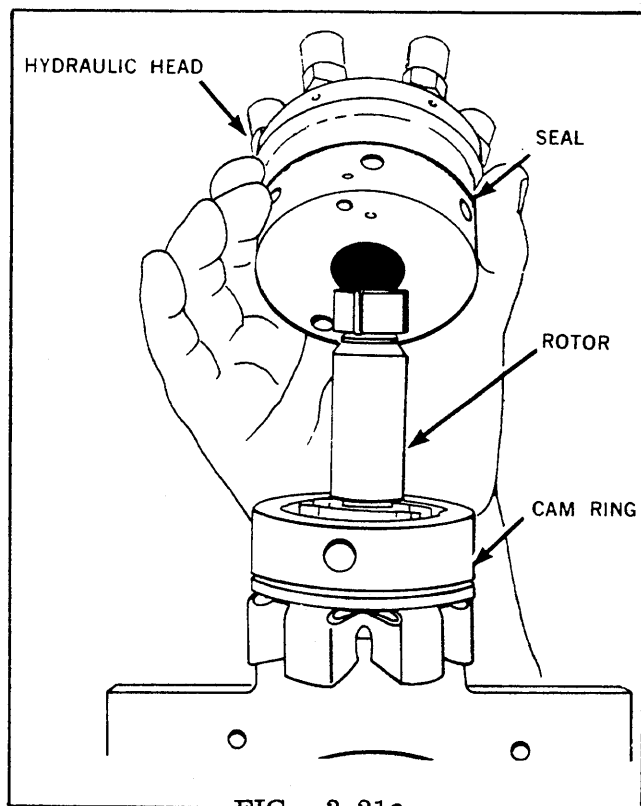
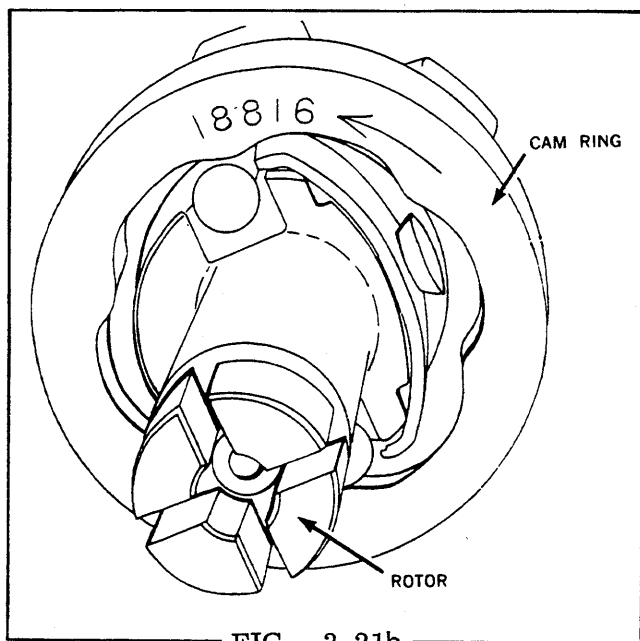

FIG. 3.21a
FIG. 3.21b
STEP 21 Lift the head from the rotor (Fig. 3.21a). Lift the cam ring from the rotor (Fig. 3.21b).